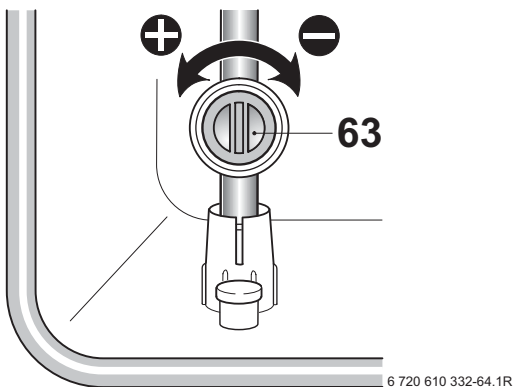

Fig. 47
- ▶ Adjust the gas flow restrictor (63) to obtain the CO₂ level given in Table 15. Refer to fig. 47.